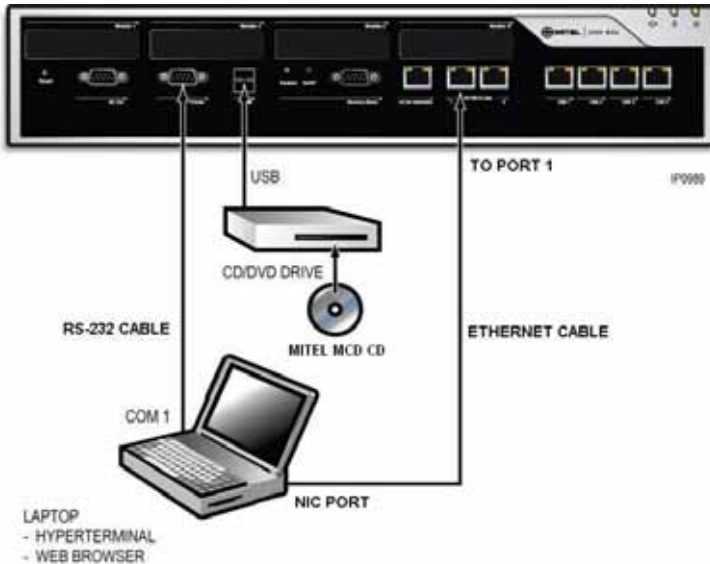

Figure 23: Laptop and CD/DVD Connections
5. Connect the RS-232 serial cable between the COM 1 port on your laptop to the server printer port (see Figure 23).